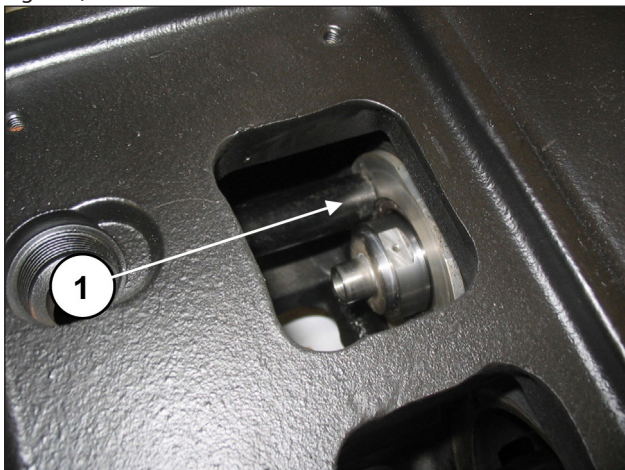
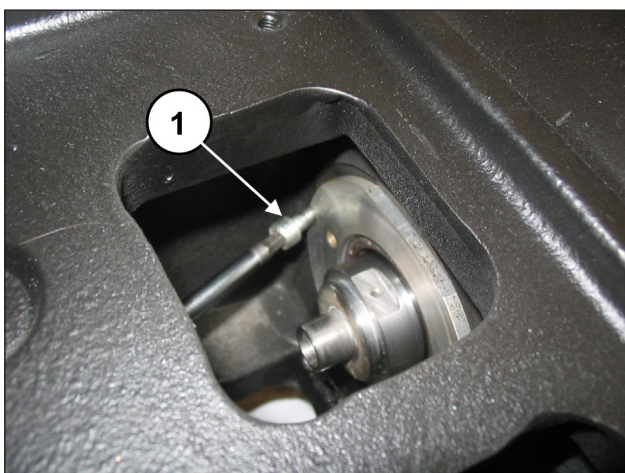

Fig. 172
Fig. 173
Make sure that the cover completely enters its seat (pos. ①, Fig. 172) being careful not to damage the lip of the seal ring. Screw in the oil seal covers using 2 x M6x14 screws (pos. ①, Fig. 173).